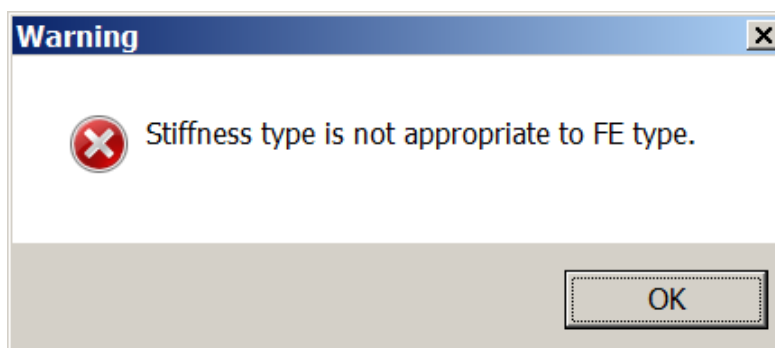

Figure 10.13 Warning message box
- ⇒ The **Warning** box (see Figure 10.13) is displayed. Click **OK**. (This message is displayed because bar elements were selected on design model as well as plate elements. But this type of stiffness is not allowed for bar elements.)